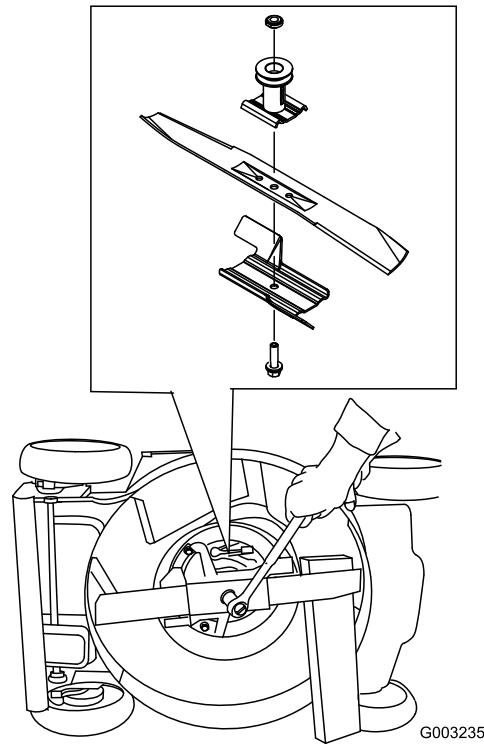

Figure 41
3. Use a block a wood to hold the blade steady (Figure 41).